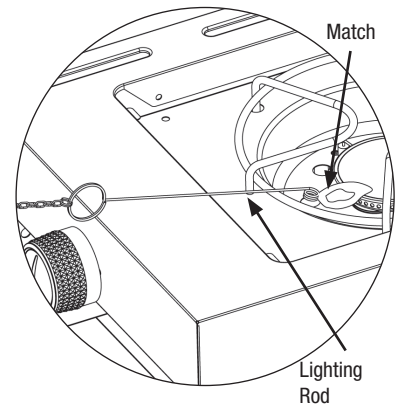

Figure 7
8. If igniter does not light burner, use a lit match secured with the lighting rod (included with grill) to light burners. Position the lit match near side of the burner (Figure 7).